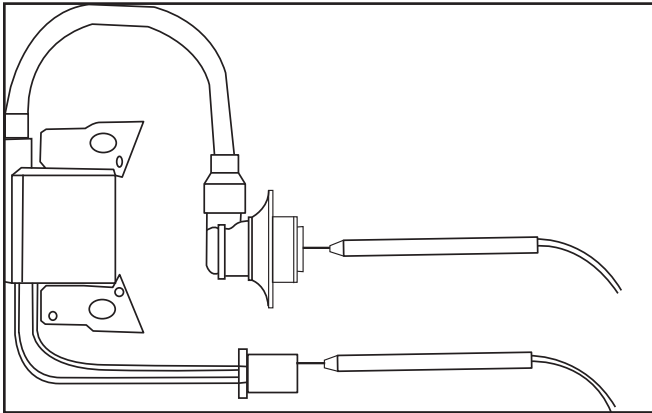

Figure 58
- Attach one test lead to either terminal of ignition coil connector and the other lead to the spark plug cap (Figure 58) to measure the secondary resistance.